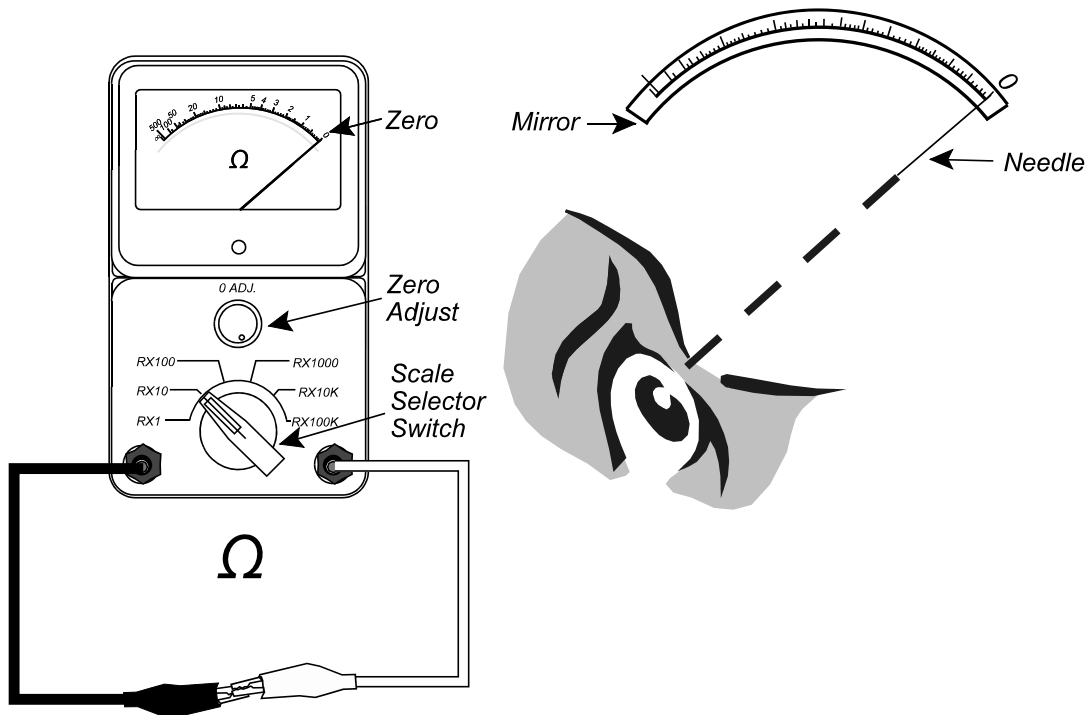

Figure 1-1
5. 'Zero the ohmmeter' as shown in Figure 1-1. Use the Zero Adjust to make sure the pointer is pointing at zero or 0Ω .